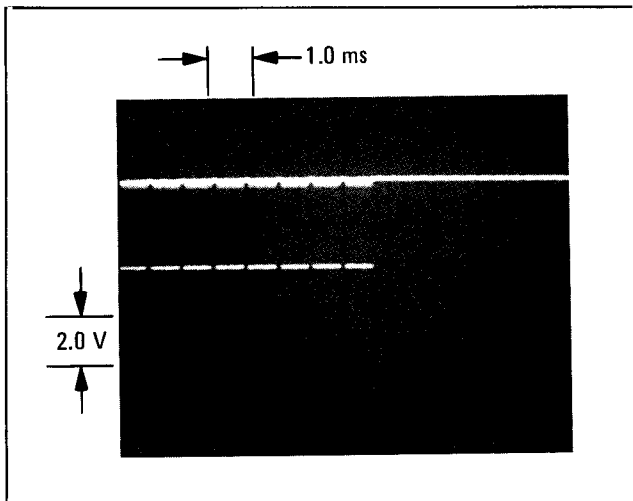

Figure 9. Oscilloscope Display of LF Loop Clock at J3-Pin 10 (with dc coupling and external triggering at J3-Pin 10)
1. Check the waveform of Figures 9, 10 and 11 when all eight of the low frequency words are writ-